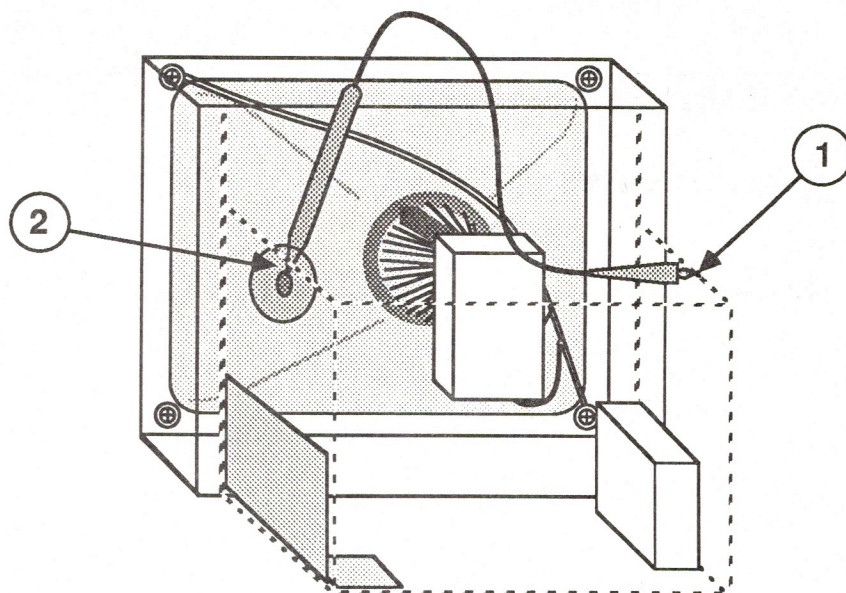

FIGURE 2
5. Attach the clips of the CRT discharge tool to any part of the metal chassis that surrounds the back of the CRT (Figure 2, #1).
6. Slide the discharge tool under the anode cap (Figure 2, #1) and push it toward the center of the cap until the blade comes in contact with the metal anode ring.